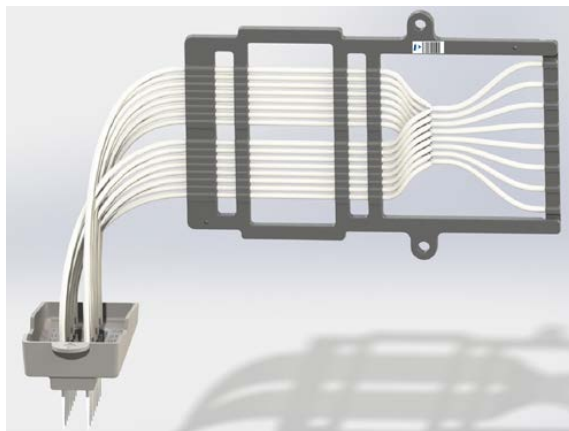

Figure 16. Cartridge Orientation
- a Orient the cannula array with the arrow on the plastic flap toward the front (as shown in Figure 16) and then slide the cannula array all the way back into the cannula array holder.
- b Orient the tubing frame so that the air holes on the tubing frame are toward the back (as shown in Figure 16) and meet the air holes on the heating assembly. The barcode is toward the front and at the top.